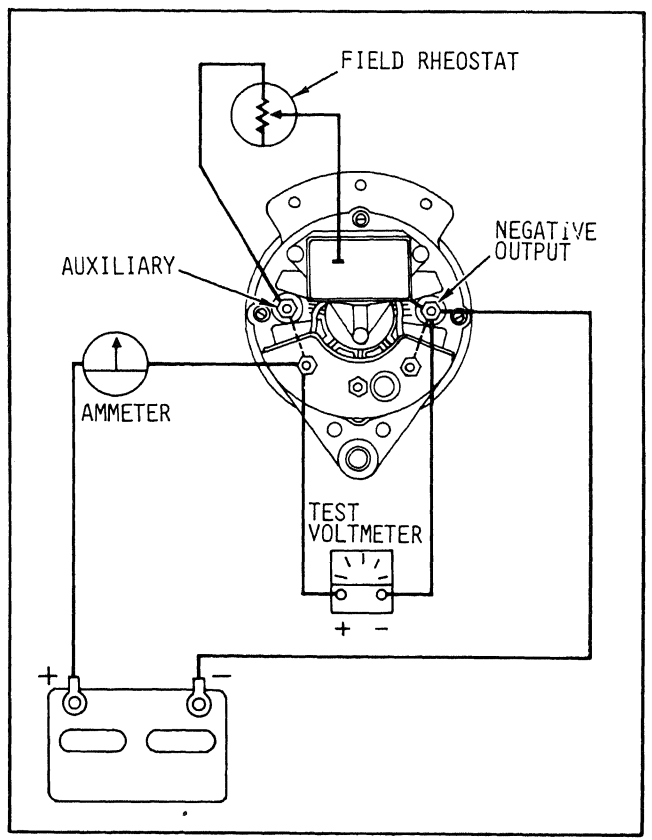

Figure 5-28. Alternator Operating Test Setup
- (1) Mount alternator in test fixture capable of providing 3000 to 4000 alternator RPM.
- (2) Set drive motor rotation to direction dictated by alternator fan for proper cooling.
- (3) Connect circuit leads as indicated in figure 5-28. Ammeter shown is panel ammeter of test fixture, a separate ammeter will serve the same purpose.
- (4) Switch ammeter to show possible discharge during hook-up, reverse meter for output test.
- (5) Set field rheostat to maximum resistance before connecting to system.
- (6) Turn drive motor on, adjust to obtain 3000 to 4000 alternator shaft RPM.
- (7) Reduce resistance of field rheostat, alternator should begin to charge.
- (8) Continue to reduce rheostat resistance until alternator reaches rated output.